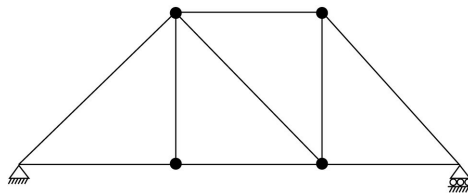

Fig. Q. 61
61. Degree of kinematic indeterminacy of the truss shown is Fig. Q. 61. is